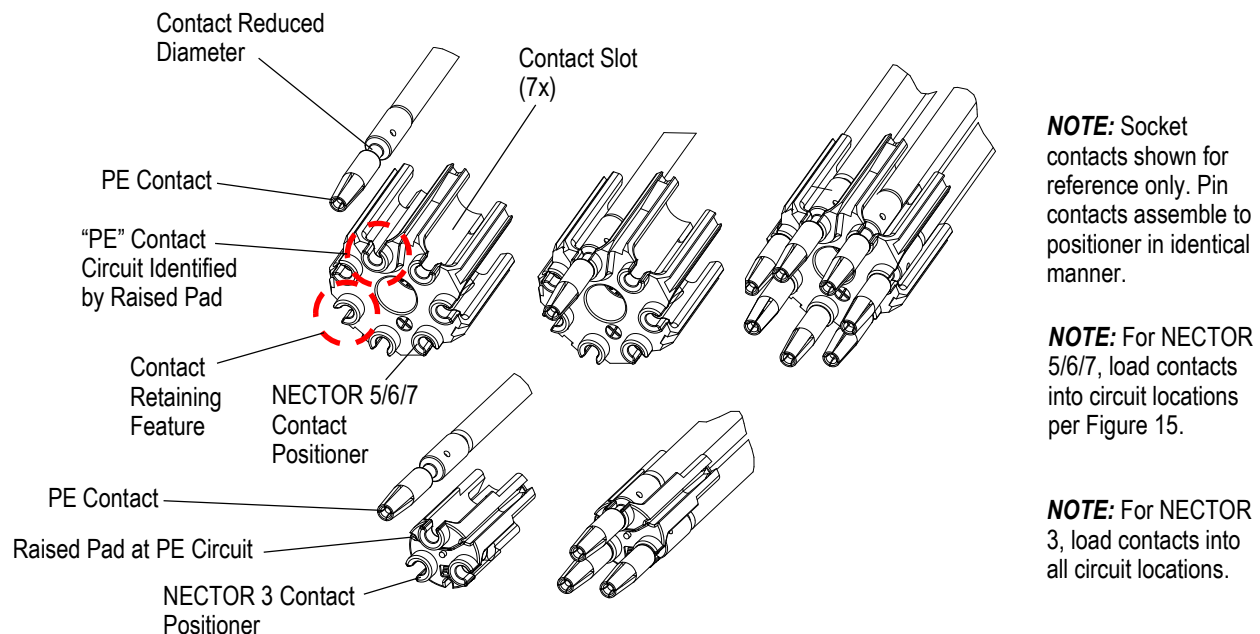

Figure 13
After crimping contacts onto the conductors (discrete/cable) the contacts are assembled to the plastic “positioner” component as shown in Figure 13.
1. Start with PE contact and identify corresponding PE “contact slot” on Positioner component (raised pad, Figures 13 & 14).
2. Place the contact crimp barrel in a “contact slot” in the positioner component. Orient the contact so the “reduced diameter” portion aligns with the “contact retaining feature” in the positioner (see Figure 13).
The PE contact slot is identified by a raised pad at the “contact retaining feature” (see Figures 13, 14). The raised pad causes the PE contact to be positioned 1mm ahead of the remaining contacts, and ensures the “make first/ break last” functionality of the PE contact. This PE circuit raised pad feature is on 3-contact positioners and 7-contact positioners.